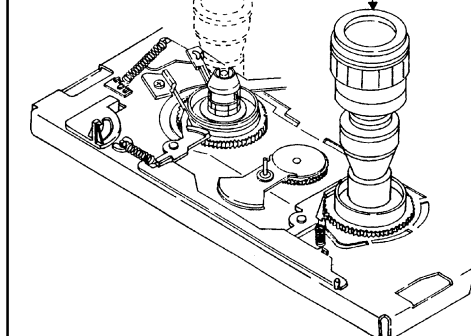

Fig. 1-4
1. Set torque gauge (JG002G) on take-up reel disk, and place unit in FAST FORWARD mode. (Refer to Fig. 1-4)
2. Set torque gauge (JG002G) on supply reel disk, and place the unit in REWIND mode. (Refer to Fig. 1-4)
3. Confirm that it is more than 200gr/cm at that time. (Supply Reel Brake) (Refer to Fig. 1-4)